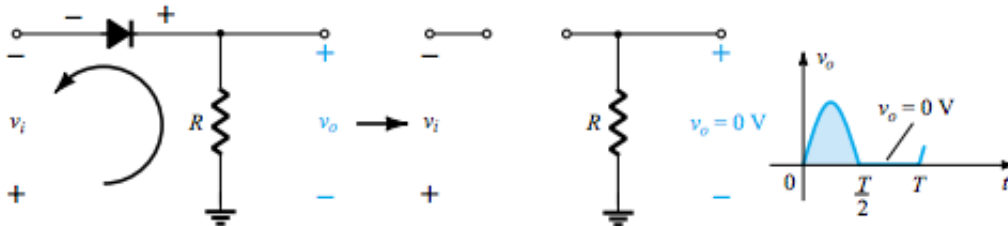
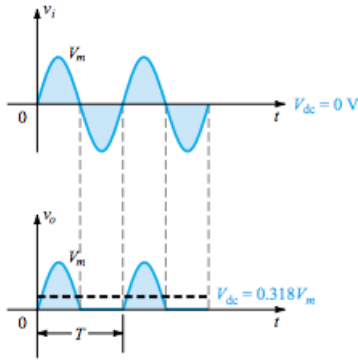

Figure 2.1.2: Non-conduction region (  $\frac{T}{2} \rightarrow T$  ).
Figure 2.1.3: Half-wave rectified signal.
For the period  $\frac{T}{2} \rightarrow T$ , the polarity of the input  $V_i$  is as shown in Figure 2.1.2 and the resulting polarity across the ideal diode produces an off state with an open-circuit equivalent. The result is the absence of a path for charge to flow and  $V_o = iR = (0)R = 0$  V for the period  $\frac{T}{2} \rightarrow T$ . The input  $V_i$  and the output  $V_o$  were sketched together in Figure 2.1.3 for comparison purposes. The output signal  $V_o$  now has a net positive area above the axis over a full period and an average value determined by:
The **half-wave rectifier**, "cancels" the negative voltage, and rectifies the A.C into C.C. But still, has a Voltage loss in the second semi-period as we have seen in Figure 2.1.2.